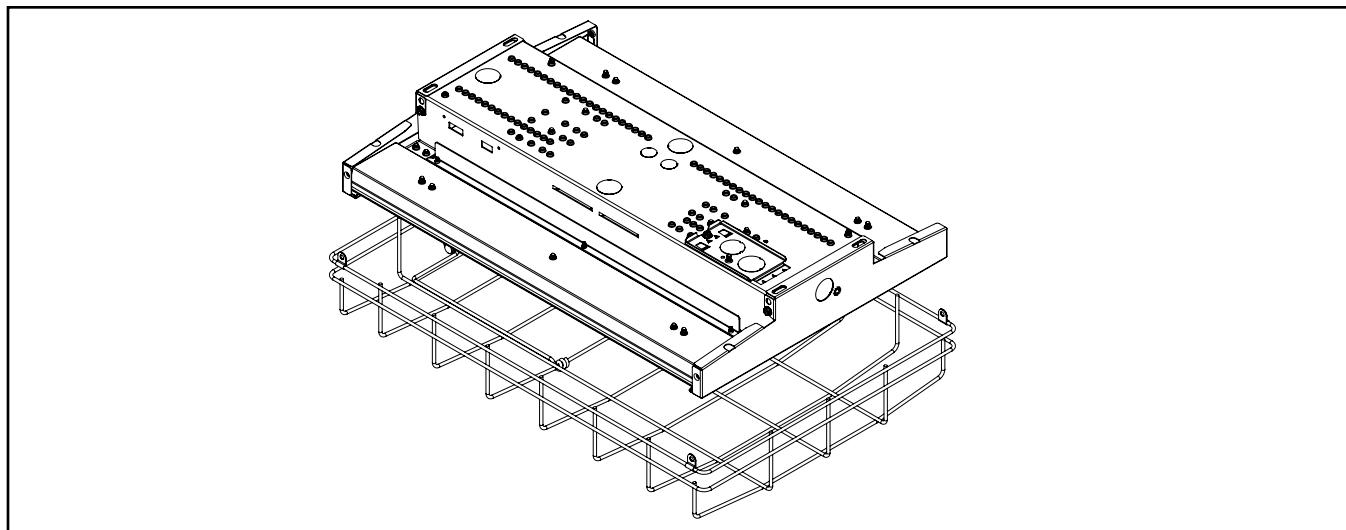

Figure 5.
- Locate and center the guard to the outside of the fixture housing with the clips aligned with the holes on the sides of the end plates. (Figure 5)